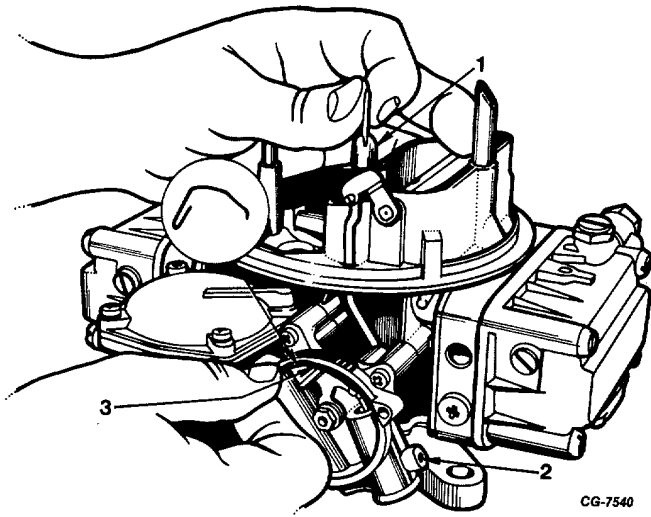

Figure 59. Checking Choke Qualifying Dimension
1. Bend a paper clip as shown in insert in Fig. 59).
2. Place bent end of clip on top of piston and depress piston until it bottoms on stop screw (Fig. 59).
3. Rotate choke lever tang counterclockwise until choke piston link touches top of piston (Fig. 59).